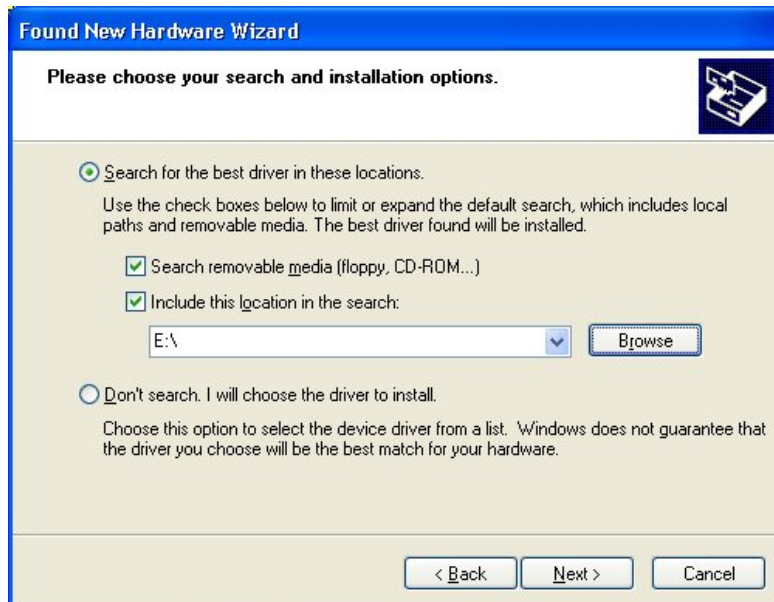

Figure 6: Windows requires the exact location of the driver.
5. Windows asks for the location of the driver. Make the settings (see Figure 6). Browse to the CD and click the **Open** button. Press the **Next** button to proceed.